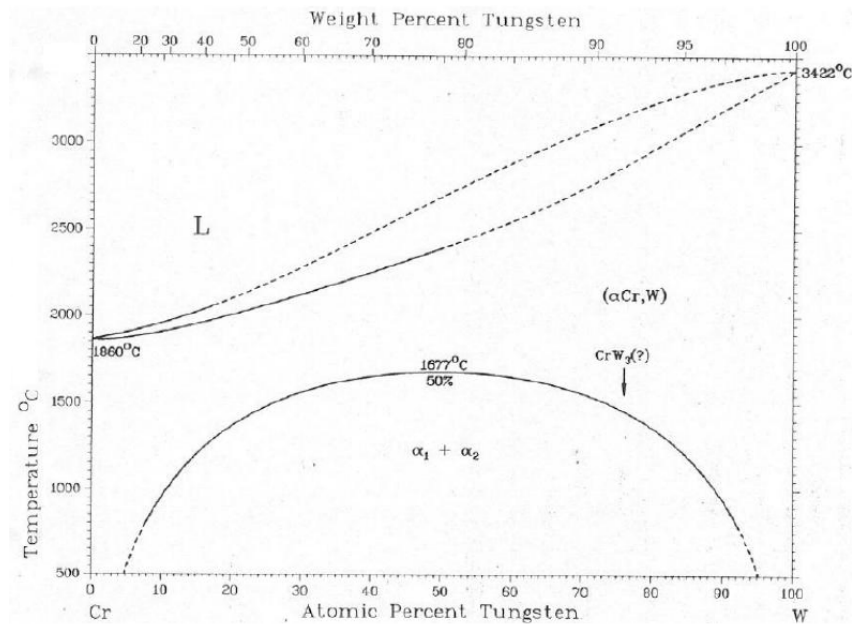

Figure 3.3: Cr-W Phase diagram.
- 5) Based upon the temperature at the top of the miscibility gap in the Cr-W system (see Figure 3.3), do the following: